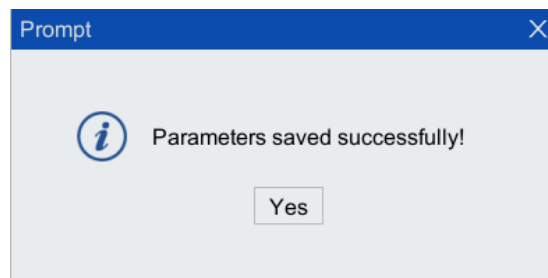

Figure 4-12 Save successful prompt box
Step 18. Click <Yes> in the pop-up dialog box of successful parameter saving. As shown in Figure 4-12. Power off and restart the control cabinet, and the parameter configuration takes effect.